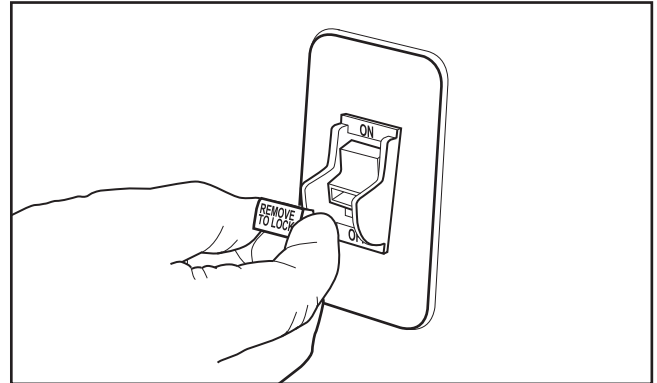

Figure 21. Removing disabling key from the toggle switch.
6. Remove the switch disabling key, as shown in **Figure 21**.